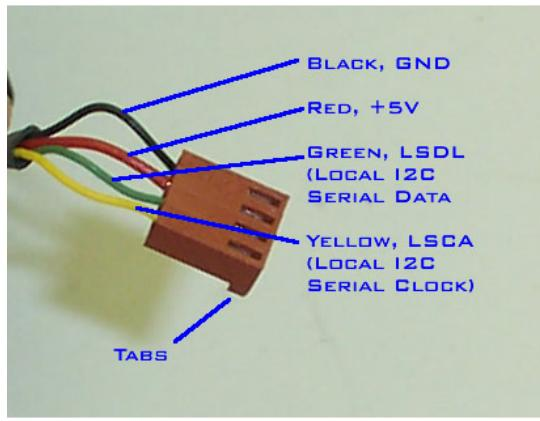
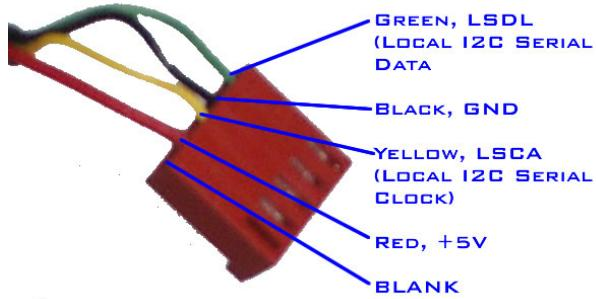

Figure 64: SRF08 Receptacle wiring: 4-position receptacle
Figure 65: SRF08 Receptacle wiring: 5-position receptacle
10. Slide the heat shrink back onto the end of the wire and shrink it as shown in Figure 64.
12. Install the crimps into the 4 pin connector as show in Figure 64 if connecting to the Trekker Expansion board. Install the 5-pin connectors as shown in Figure 65 if connecting to a OOPic II/II+ or OOPic-R parallel programming port..